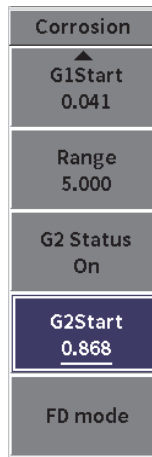

Figure 11-45 Corrosion sidebar menu (G2Start)
1. On the Corrosion sidebar menu, highlight **G2Start** (see Figure 11-45 on page 206).